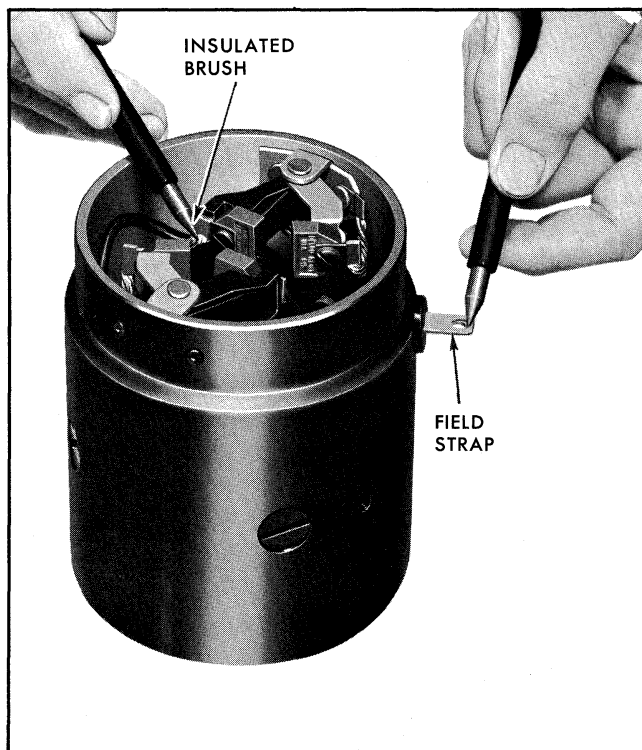

Fig. 11-13 Testing Field Coils off Open Circuit
2. Open—Touch one test lamp lead to insulated brush and one lead to field connector strap (Fig. 11-13). If lamp does not light, the series field coils are open.